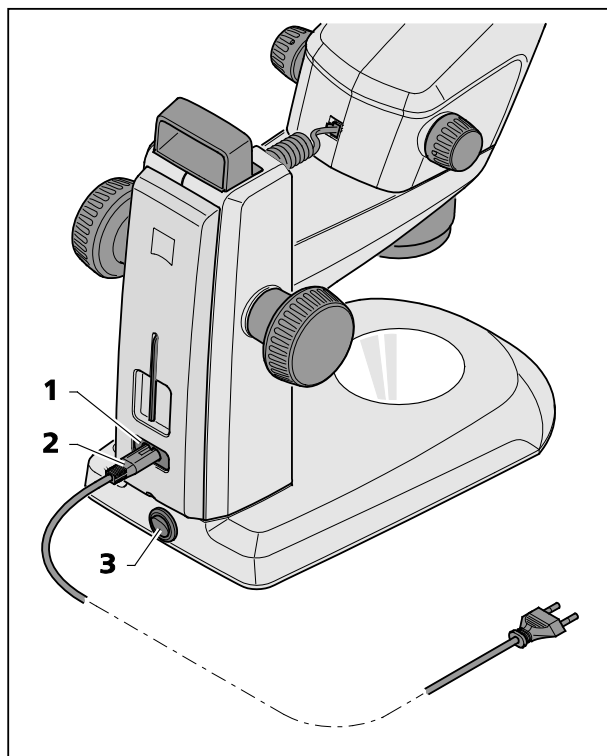

**Fig. 16** Inserting the eyepiece plate
The eyepieces feature rubber protection rings for spectacles to avoid the spectacles being scratched. These rings may be replaced at choice by reversible eye cups (Fig. 16/1).
- To this effect remove the protection rings for spectacles (Fig. 16/2) from the eyepieces and position the eye cups (Fig. 16/1).
- Unscrew stop (Fig. 16/6) out of the eyepiece (Fig. 16/3).
- Pull locking ring (Fig. 16/4) out.
- Insert eyepiece plate (Fig. 16/5).
The slight image offset which is due to the additional glass distance is taken into account on the diopter scale by the zero position not being indicated by the white dot (Fig. 16/**W**), but by a red dot (Fig. 16/**R**).